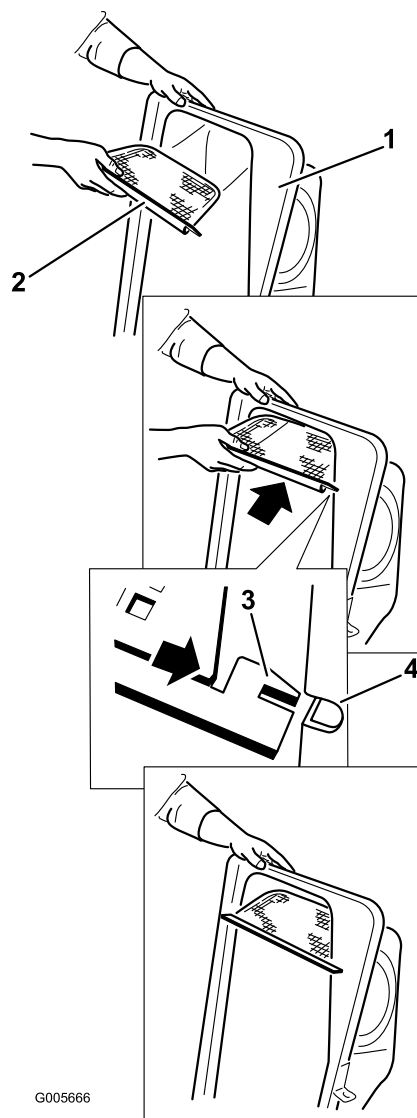

Figure 20
2. Install the screen as shown in Figure 20 and that it slopes down toward the collection bags.